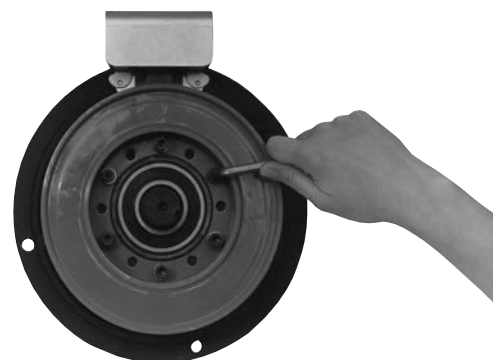

Figure 3
- c. The field assembly is then fastened in place with capscrews and lockwashers. (Figure 3)